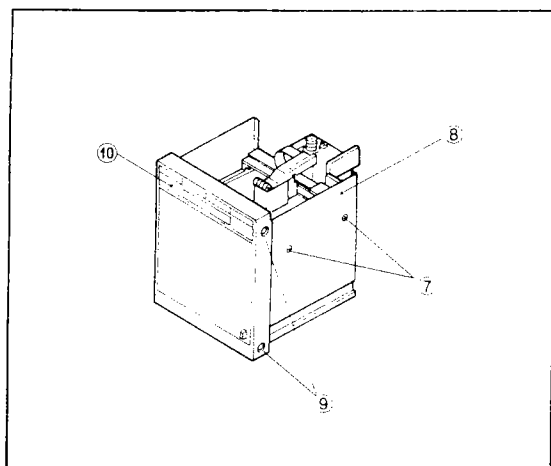

Figure 10-5. Side Plate Removal.
- (1) Remove four screws (number 7) on both side plates and four screws (number 9) on both sides of the front frame (see Figure 10-5). Remove both side plates (number 8) and the front panel (number 10).